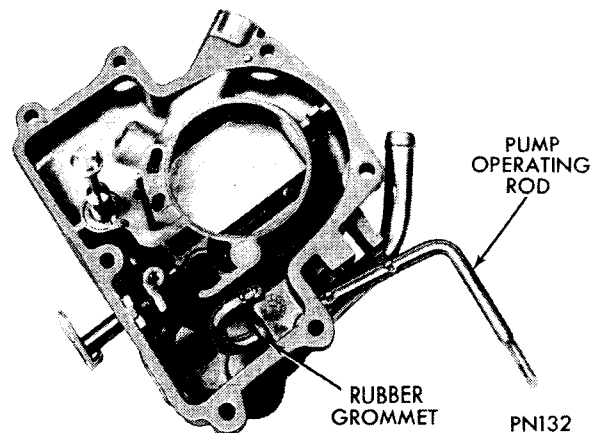
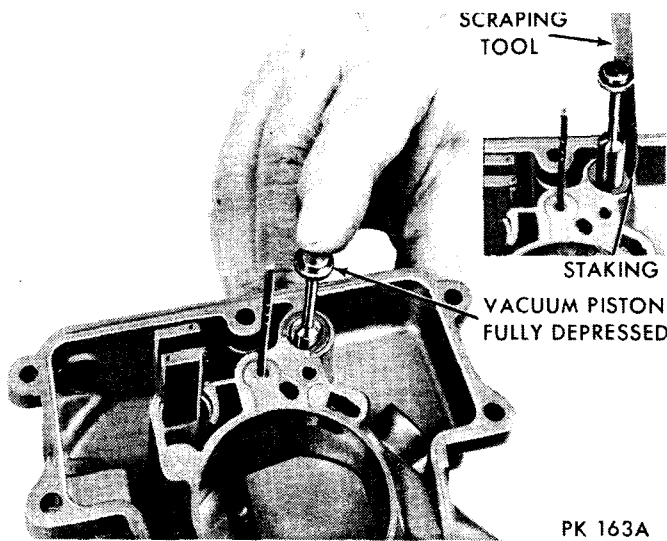

Fig. 13—Removing Accelerator Pump Operating Rod
Fig. 14—Removing Vacuum Piston
(8) Rotate the pump operating rod and remove from bowl cover (Fig. 13). **Do not remove mechanical modulator rod.** (Fig. 14).
(9) Remove the pump operating rod grommet.
(10) The power piston assembly retaining ring is staked in position and care must be taken at removal. Remove staking with a suitable sharp tool then remove the vacuum piston from the bowl cover by depressing the piston and allowing it to snap up against the retaining ring (Fig. 14).